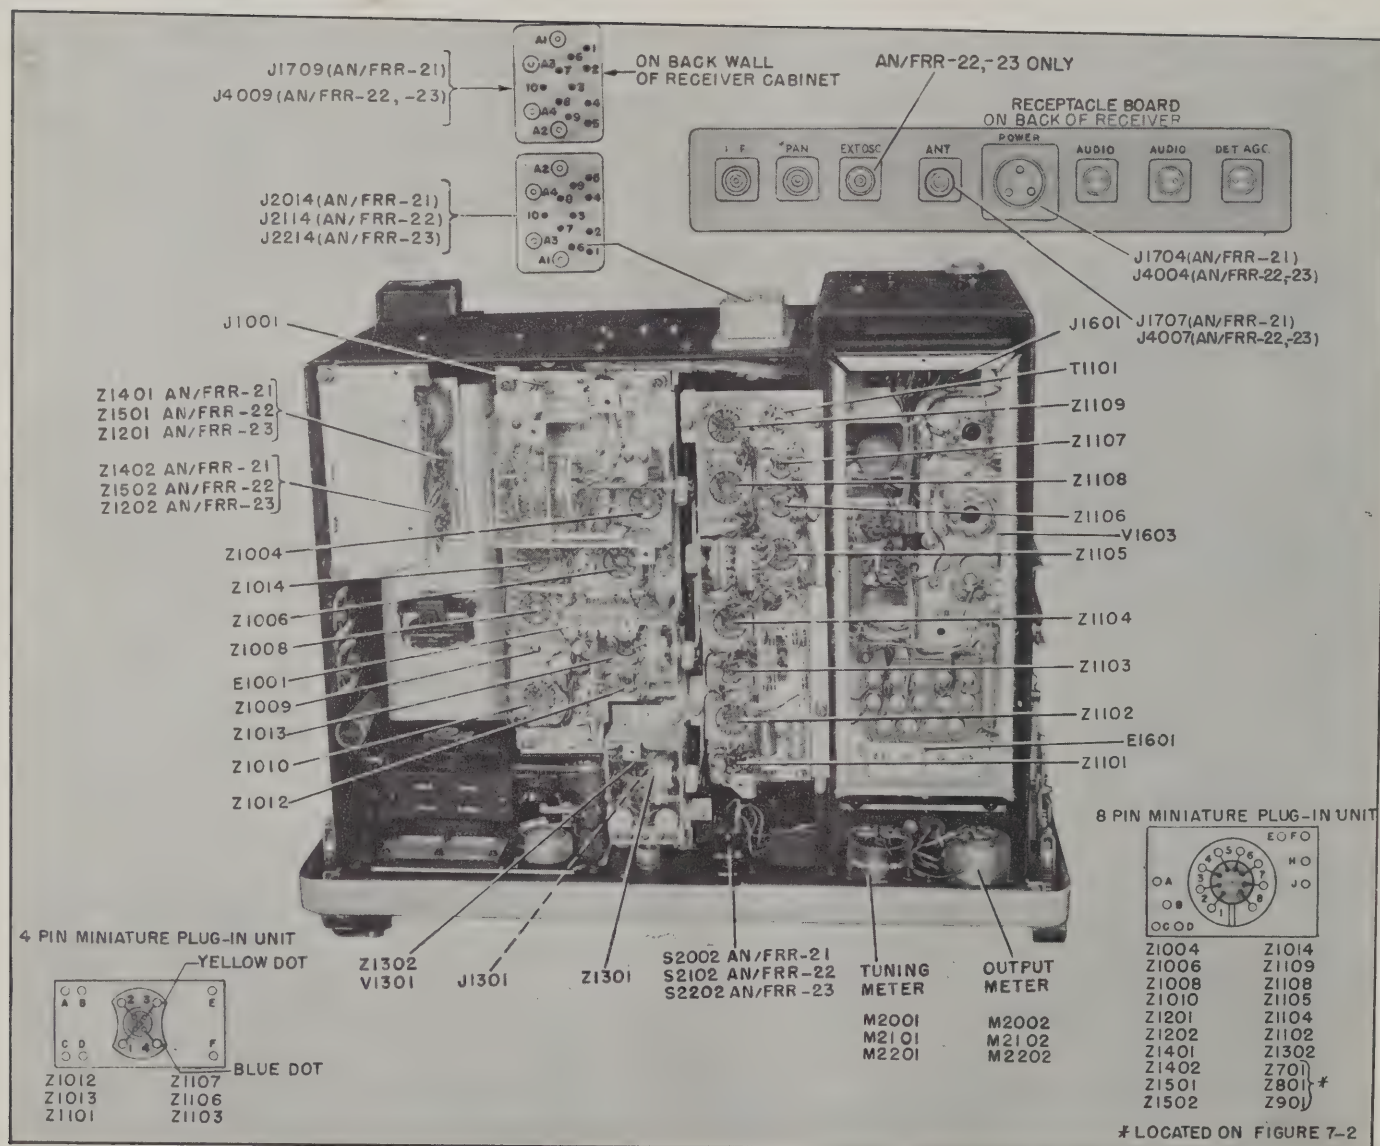
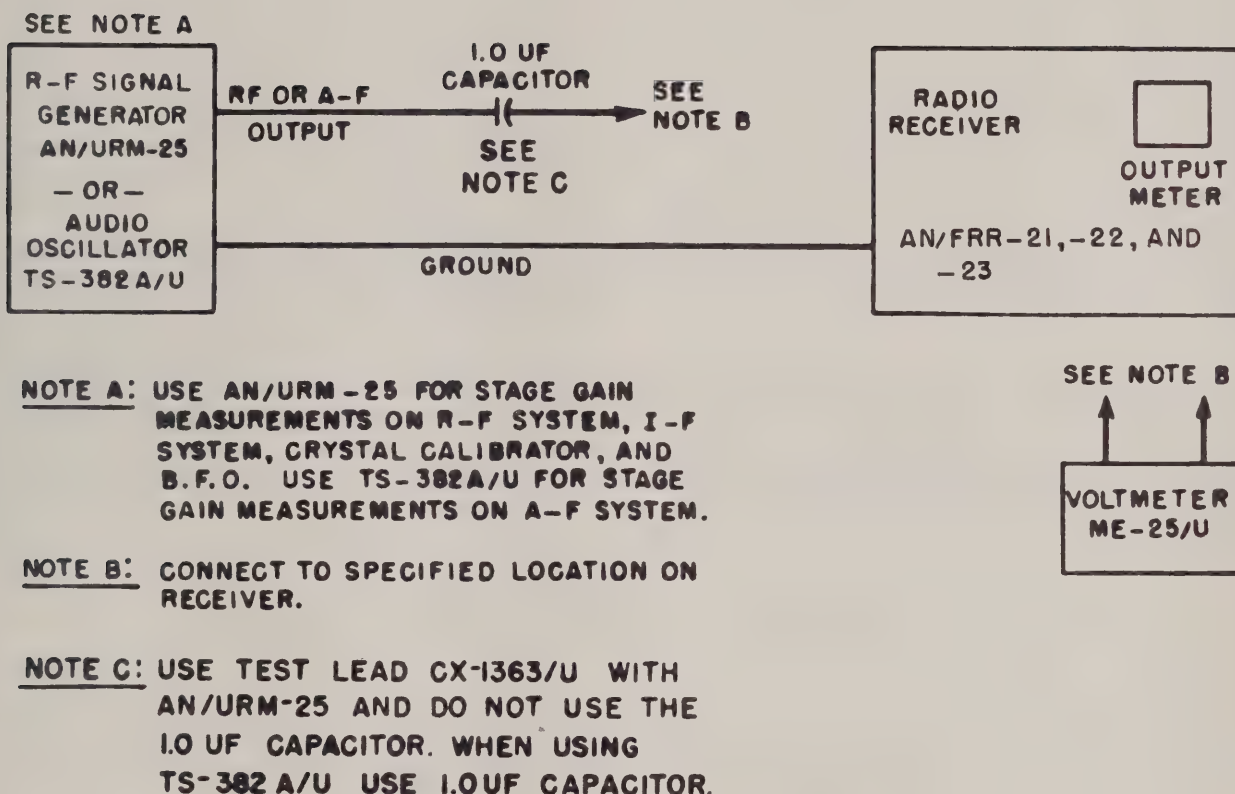

Figure 7-1. Stage Gain and Trouble Shooting Measurement Points, Top View
Figure 7-3. Test Set-Up for Stage Gain Measurements
g. GAIN CONTROL.—Check the GAIN control (active on A1 and A2 positions of the RECEPTION control and FSK position of the low-frequency receivers). This control should vary the signal output, as indicated by the TUNING meter, OUTPUT meter, and phones. If the gain control does vary the signal output as described above, then proceed to step *b* of this procedure. If the gain control does not vary the output level to any degree, then the trouble is probably in the immediate circuits of the GAIN control (R2001 on AN/FRR-21, R2107 on AN/FRR-22, and R2207 on AN/FRR-23) itself. Check resistance and continuity of A and B sections of this control and its interconnections till the fault is found. Refer to the appropriate schematic diagram and figures 7-1 and 7-2 for location of interconnections. If the GAIN control (R2001 on AN/FRR-21, R2107 on AN/FRR-22, and R2207 on AN/FRR-23) varies the output to only a slight degree, then the trouble is probably in either the antenna and r-f section of the GAIN control (A section and associated circuit), or in the second i-f section of the GAIN
B+ passes until the fault is found. Refer to the appropriate schematic diagram and to figures 7-1 and 7-2 for location of these connectors. If this voltage is 95 volts d-c, then check the crystal calibrator frequency. See paragraph 14e for checking the crystal calibrator frequency. *Do not tamper with the crystal calibrator adjustments until it is made certain that this frequency is off.* If the crystal calibrator frequency is correct, then align the oscillator section on only the band or bands where calibration cannot be obtained. See paragraph 14f for oscillator and r-f alignment.
The following procedures constitute a detailed, systematic, and complete check on the functioning of the equipment. These procedures should be used after trouble has been localized by the procedures described in paragraph 2, and as a complement to these procedures. Refer to appropriate schematic diagram figures 7-20 to 7-22, to the component location illustration figures 7-1 and 7-2, and the connection (wiring) diagrams. Table 7-1 is a list of test equipment required throughout this procedure. The block diagrams shown in figures 2-8 to 2-10 will often help in visualizing possible sources of trouble.
If line voltage is present here, the trouble lies in the power transformer (T1601) primary (pins 1, 2, 3, 4, or 6) or secondary circuits (pins 10 to 14). Check the voltage at these points. If they are normal then check the filament lines, starting at pins V and ground of J2013, J2113, or J2213, depending on receiver type, and checking voltage at each connector listed on the schematic diagram. Locations of these connectors are shown in figures 7-1 and 7-2.
If line voltage is not present at pins P and N of J2013, J2113, or J2213, depending on receiver type, the trouble lies in the interconnecting lines between these points or the filter assembly. Check voltages at each of the connectors and terminals shown on the schematic diagram starting from P and N of J2013, J2113, or J2213 until the fault is found. See figures 7-1 and 7-2 for location of these jacks and terminals.
responding to that or those particular positions. Once an abnormal reading is found replace the plug-in unit associated with that stage. If this does not correct the trouble then the fault lies in the interconnecting lines between the plug-in unit and its external associated parts. Check voltage and resistance at the tube socket in that particular stage (normal values are given in Table 7-4). If an abnormal voltage appears, check the assembly appropriate chassis interconnections which could logically cause the trouble. For example if no voltage appears at the plate of a tube and this voltage should be 80 volts d-c, it is obvious that the B+ lead is opened or shorted somewhere along the lines. Probable place for these to be shorted or opened is at any connectors or terminals through which they may pass. It then remains to check the voltage and or resistance at each of these jacks or terminals until the cause is found. Refer to the appropriate schematic diagram and figures 7-1 and 7-2 for the location of these jacks and terminals.
d. I-F AND R-F SYSTEMS.—(No phone output, no indication on OUTPUT meter or TUNING meter when receiver is tuned as per paragraph 2d.) The following procedure listed in paragraphs (1) to (5) constitutes a check on the operation of the second i-f assembly to eliminate or localize this as a possible cause of trouble. Remove the cover from the second i-f assembly and connect a signal generator such as item 3 of Table 7-1 directly to J1001B (see figure 7-1 for location of this jack.) Set the OUTPUT, GAIN, and DIVERSITY GAIN BAL controls to maximum and the SILENCER control to minimum and proceed as follows:
(1) A1 SIGNALS.
- (c) Adjust the BFO to produce a 1-kc beat note. See steps (a) and (b) of paragraph 14f (2).
- (h) Check the signal generator output level. It should be 15 uv ($\pm 30\%$). Note this reading and go on to paragraph (2) of these procedures.
(2) A2 SIGNALS.
reading is found, replace the plug-in unit associated with that stage. If this does not correct the trouble, then the fault lies in the interconnecting lines between that plug-in unit and its external associated components. Check voltage and resistance at the tube socket in that particular stage (normal values are given in Table 7-4). If an abnormal voltage appears, trace the assembly and chassis interconnections which could logically cause the trouble. For example, if no voltage appears at the plate of a tube and this voltage should be 80 volts d-c, it is obvious that the B+ lead is opened or shorted somewhere along the lines. Probable place for this to be shorted or opened is at jacks or terminals through which it may pass. It then remains to check the voltage and or resistance at each of these jacks or terminals until the cause is found. Refer to the appropriate schematic diagram and figures 7-1 and 7-2 for the location of these jacks and terminals.
Measure the gain of the suspected stages. Once an abnormal stage gain measurement is found, replace the stage. If this does not correct the trouble then the fault lies in the interconnecting lines between that stage and its external associated components. Check voltage and resistance at the tube socket in that particular stage; normal values are given in Table 7-4. If an abnormal voltage appears, check the assembly and appropriate chassis interconnections which could logically cause the trouble. For example, if no voltage appears at the plate of a tube and this voltage should be 80 volts d-c, it is obvious that the B+ lead is opened or shorted somewhere along the lines. Probable places for these to be shorted or opened are at any connectors through which it may pass. It then remains to check the voltage at each of these connectors until the cause is found. Refer to the appropriate schematic diagram and figures 7-1 and 7-2 for the location of these jacks and terminals.
matic diagram and figures 7-1 and 7-2 for the location of these jacks and terminals.
Replace the plug-in unit associated with the suspected stage. If this does not correct the trouble, then the fault lies in the interconnecting lines between that stage and its external associated components. Check voltage and resistance at the tube socket in that particular stage; normal values are given in Table 7-4. If an abnormal voltage appears, check the assembly and appropriate chassis interconnections which could logically cause the trouble. For example, if no voltage appears at the plate of a tube and this voltage should be 80 volts d-c, it is obvious that the B+ lead is opened or shorted somewhere along the lines. Probable place for these to be shorted or opened is at any jacks or terminals through which it may pass. It then remains to check the voltage at each of these jacks or terminals until the cause is found. Refer to the appropriate schematic diagram and figures 7-1 and 7-2 for the location of these jacks and terminals.
Stage gain measurements are listed in Table 7-3. The measurements should be taken as called for in paragraph 2 or 3 of this Section. If a measured stage gain does not agree to within approximately 30% of the value given in Table 7-3, then replace the stage. If this fails to correct the trouble, then take voltage and resistance measurements of the stage and associated components to locate the trouble. To measure stage gain, refer to the appropriate portion of Table 7-3 and to figure 7-3, which shows the test set-up, and proceed as follows:
a. Refer to figure 7-3 and connect a signal generator or audio oscillator as called for in Table 7-1 to the point designated as input location on that Table (location of points for test equipment connection or the receiver is shown in figures 7-1 and 7-2).